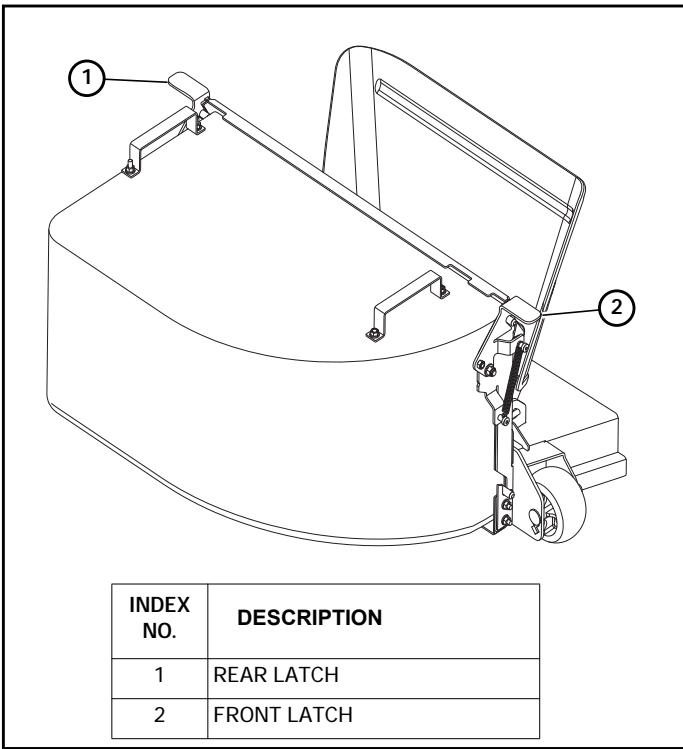

Figure 4-1
1. Pull on the front and rear latches to release the bag assembly. Figure 4-1